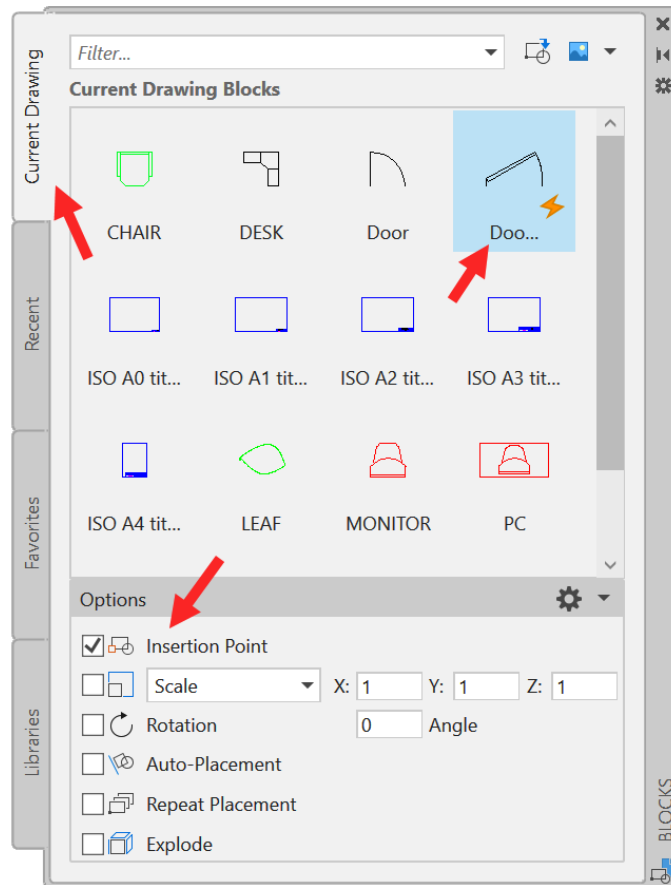

Figure 9.8: The Blocks palette with the Current Drawing tab current
The **Blocks** palette will now appear on the screen. The **Blocks** palette is a newer method of working with blocks in more recent versions of AutoCAD. It is also more versatile and allows you to develop block libraries. You can see the **Blocks** palette in *Figure 9.8*, displaying the blocks in the current drawing with the **Current Drawing** tab selected.
1. Ensure that *only* the **Insertion Point** box is ticked in the lower area of the **Blocks** palette, as shown in *Figure 9.8*. This makes sure that you specify the insertion point as you insert the block.
2. You will notice that there is another door block on the palette (arrowed in *Figure 9.8*). This block has a yellow lightning symbol applied to it. This indicates that it is a *dynamic* block. The full block name is **Door – Metric**.